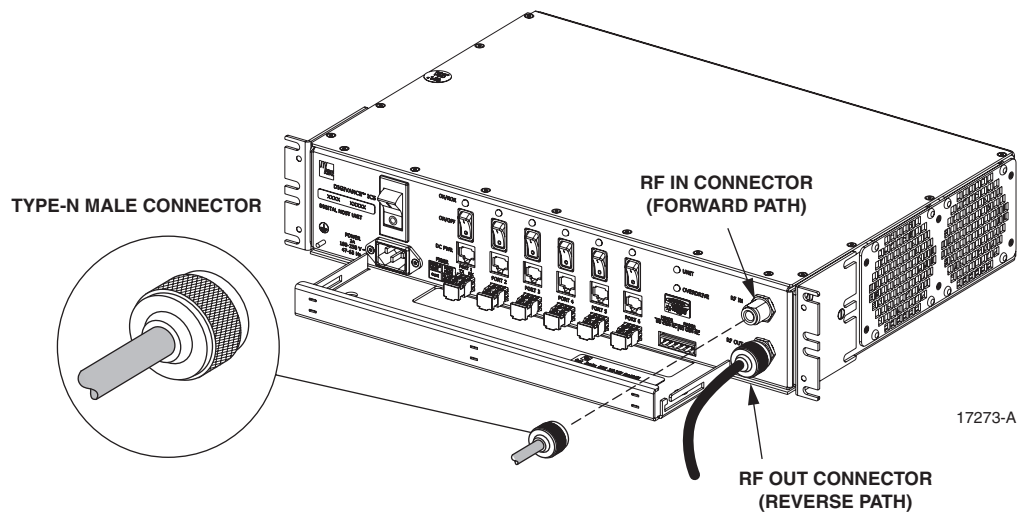

Figure 18. Forward and Reverse Path Coaxial Cable Connections
4. Connect the forward path cable to the **RF IN** connector on the DHU front panel as shown in Figure 18.